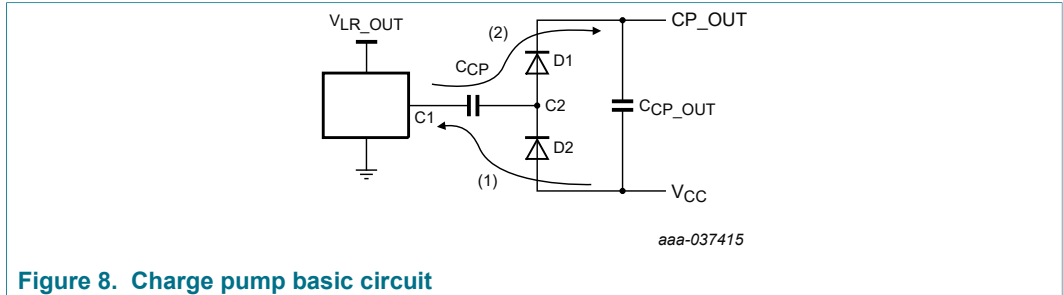

Figure 8. Charge pump basic circuit
The charge pump generates the high-side driver supply voltage (CP_OUT), buffered at CCP_OUT. Figure 8 shows the charge pump basic circuit without load.
When the oscillator is in low state [(1) in Figure 8], C_{CP} is charged through $D2$ until its voltage reaches $V_{CC} - V_{D2}$. When the oscillator is in high state (2), C_{CP} is discharged through $D1$ in C_{CP_OUT} , and final voltage of the charge pump, V_{CP_OUT} , is $V_{CC} + V_{LR_OUT} - 2V_D$. The frequency of the 33883 oscillator is about 330 kHz.